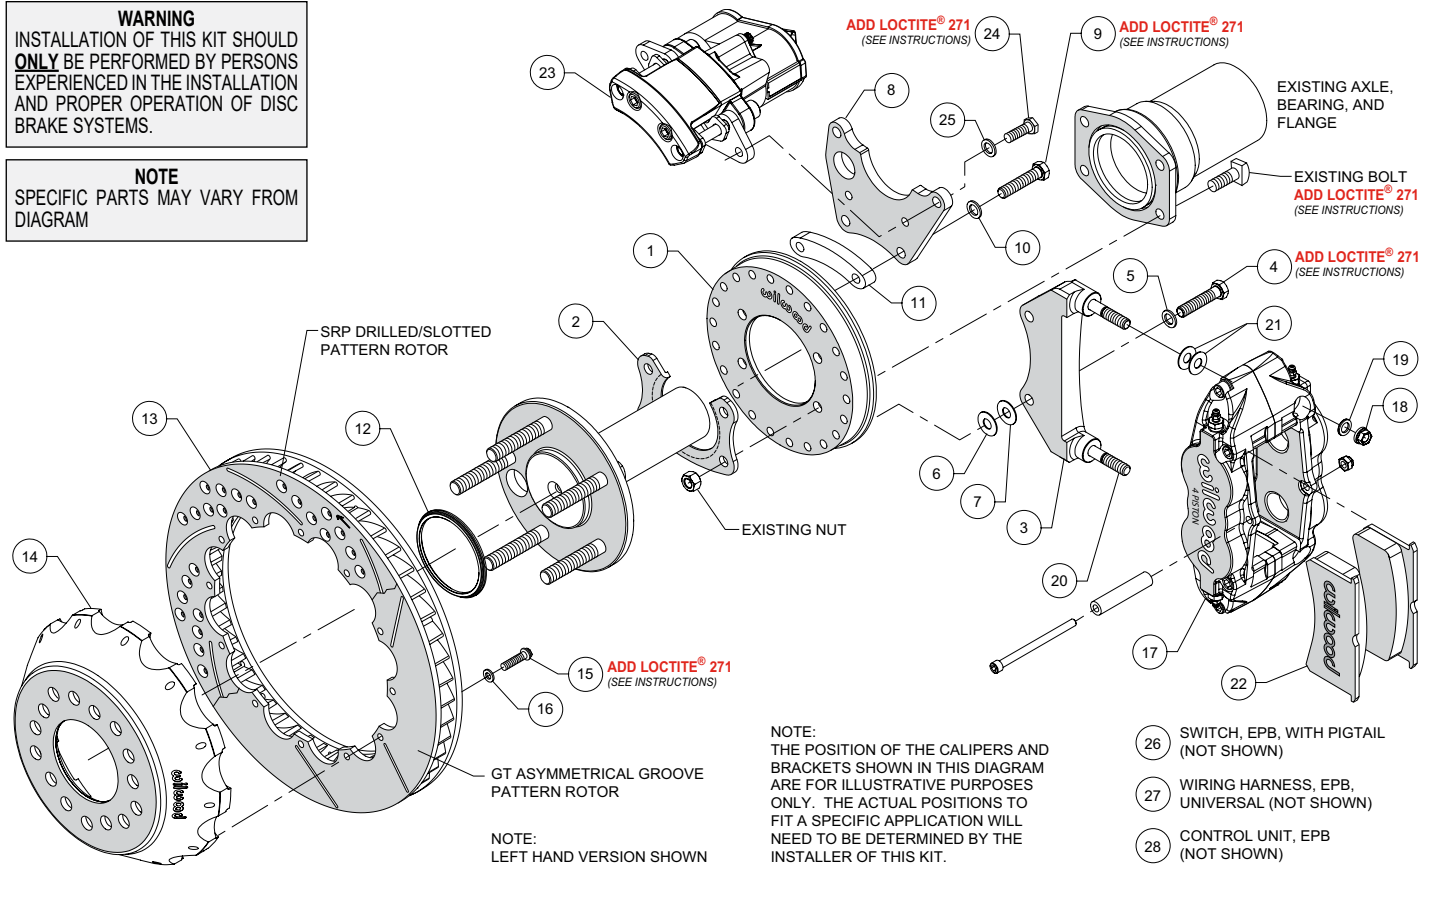
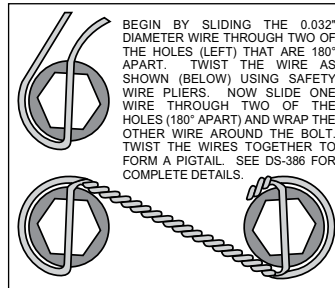

Figure 1. Typical Installation Configuration
Figure 5. Safety Wire Diagram
(numbers in parenthesis refer to the parts list, and Figure 1 on the preceding pages):
- Orient the backing plate (1) as shown in Figure 1 and Photo 1, and slide it onto the axle housing flange. Ensure the backing plate fits flush against the axle housing flange. Reinstall the axle into the axle housing.
- Install the bearing retainer (2) with the opening pointing upward and the lip facing inward (toward the bearing), as shown in Figures 1 and 4, and Photo 2. Secure retainer and backing plate to the axle housing flange using the Original Equipment Manufacturer (OEM) bolts and nuts, Figure 1 and Photo 3. Apply red *Loctite*® 271 to the OEM bolt threads and torque to OEM specifications.
- Start by determining the best location for the service caliper (17). This caliper is usually mounted in the 3:00 or 9:00 o'clock position, but may be rotated up or down approximately 45 degrees and still allow for proper bleeding, Photo 4. Orient the service caliper bracket (3) as shown in Figure 1 and Photo 5, and install to the backing plate (1) in the desired location using bolts (4) and washers (5). Temporarily tighten bolts. Next, mount the service caliper onto the bracket. Mount the service caliper using lock nuts (18) and washers (19), Figure 1. Temporarily tighten the lock nuts. Check that the caliper (including inlet fitting and hose) has sufficient clearance to all surrounding components through the full suspension travel. Relocate the caliper/bracket on the backing plate as needed to ensure proper clearance is achieved.
- Determine the best location for the EPB caliper (23). **NOTE:** *The EPB caliper motor extends farther inboard than the service caliper and therefore needs additional consideration when determining a mounting location with sufficient clearance.* In the example application shown in Photo 6, the EPB caliper has sufficient inboard clearance to the leaf spring. However, if the EPB caliper were mounted closer to the 12:00 o'clock position, the inner body of the vehicle would hit the caliper during full compression of the suspension.
•Orient the EPB caliper bracket (8) as shown in Figure 1 and Photo 7, and install to the backing plate (1) in the desired location using bolts (9), washers (10), and spacer (11). Temporarily tighten bolts. **NOTE:** The EPB bracket is reversible. In one direction the bracket will position the EPB caliper closer to the service caliper, and vice versa if reversing the bracket. Next, mount the EPB caliper (23) to the bracket using bolts (24) and washers (25). Temporarily tighten bolts. **NOTE:** EPB calipers are Left and Right handed, however they can be used on either side of the vehicle to best suit your specific application. Check that the EPB caliper (including wiring harness connector) has sufficient clearance to all surrounding components through the full suspension travel. Relocate the EPB caliper/bracket on the backing plate as needed to ensure proper clearance is achieved.
•Once the caliper positions have been determined, remove both the service (17) and EPB (23) calipers, leaving both brackets in place on the backing plate. For the EPB bracket, remove the bolts one at a time, apply red *Loctite*® 271 to the threads, and torque to 35 ft-lb. The service caliper bracket will be final installed after shimming is determined.
•Orient the rotor (13) and the hat (14) as shown in Figure 1 and Photo 8. Attach rotor to hat using bolts (15) and washers (16). Apply red *Loctite*® 271 to the bolt threads and torque to 155 **in-lb** using a criss-cross pattern. For an added measure of security, the bolts may be safety wired using standard 0.032 inch diameter stainless steel safety wire as shown in Figure 5. Please refer to Wilwood's data sheet DS-386 (available at www.wilwood.com/Pdf/DataSheets/ds386.pdf) for complete safety wire installation instructions.
•Initially place two .035" thick shims (21) on each stud of the service caliper bracket (3), as shown in Figure 1 and Photo 10. Mount the caliper onto the bracket using lock nuts (18) and washers (19), Figure 1. Temporarily tighten the lock nuts and view the rotor through the top opening of the caliper. The rotor should be centered in the caliper, Photo 11. If not, adjust by adding or subtracting shims (6 and/or 7) between the service caliper bracket (3) and the backing plate (1). Always use the same amount of shims on each of the two mounting bolts. Once the caliper alignment is correct, remove the bracket mounting bolts (4) one at a time, apply red *Loctite*® 271 to the threads, and torque bolts to 35 ft-lb.
- Mount the EPB caliper (23) onto the caliper mounting bracket (8) using bolts (24) and washers (25), Figure 1. Apply red *Loctite*® 271 to bolt threads, and torque to 30 ft-lb.
• **NOTE:** The service caliper (17) in this brake kit utilizes a 1/8-27 NPT pipe thread inlet. OEM rubber brake hoses generally cannot be adapted to Wilwood calipers. The preferred method is to use steel adapter fittings at the caliper, either straight, 45 or 90 degree (use PTFE tape on pipe threads of adapter fitting for proper sealing to caliper) and enough steel braided line to allow for full suspension travel. **Carefully route hoses to prevent contact with moving suspension, brake or wheel components.** **NOTE:** Wilwood hose kits are designed for use in many different vehicle applications and it is the installer's responsibility to properly route and ensure adequate clearance and retention for brake hose components. Wilwood offers universal brake flex line hose kits, domestic (3/8-24 IF) chassis fittings, order: